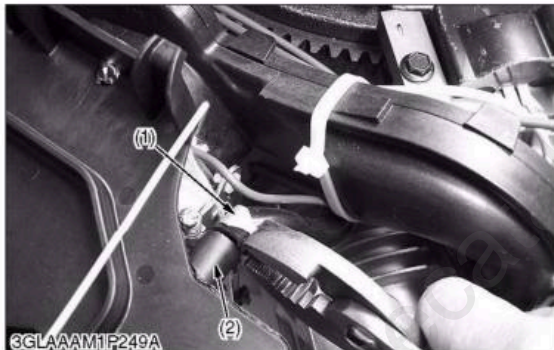

Figure 10-71. Connecting Breather Hose.
5. Connect the breather hose to the air cleaner base and secure with the clamp. See Figure 10-71.